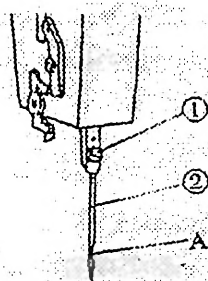
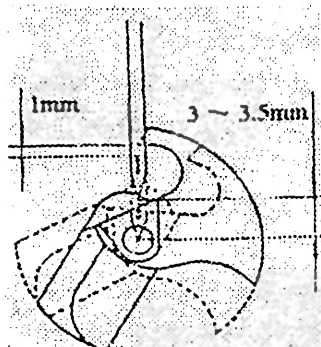

图 6 Fig.6
图 7 Fig.7
First set the needle properly, as shown in Fig.6, loosen screw (1) and insert needle (2) up into needle bar as far as it will go with its short groove A of needle facing away from the operator. Securely tighten needle clamping screw (1). Turn the machine pulley until the needle bar moves down to its lowest position. When the needle bar is in this position, needle point should be at the centre of the looper shaft, as shown in Fig.7. Turn the machine pulley to raise the needle bar about 3-3.5mm from the lowest position, point of looper should reach the centre line of needle. The point of the looper should be about 1mm above the top of the needle eye.
首先正确装好机针, 见图 6。旋松螺钉(1), 将机针(2)插入针夹孔直到孔底, 机针的短槽 A 背向操作者, 然后旋紧螺钉(1)。此时将针杆运动至最低位置时, 针尖应对准勾针轴中心。机针和勾针的相对位置见图 7, 针尖对准勾针轴的中心, 机针从最下点上升 3~3.5 毫米, 勾针的尖头刚好到达机针中心, 而勾针尖位于针上边距离为 1 毫米。